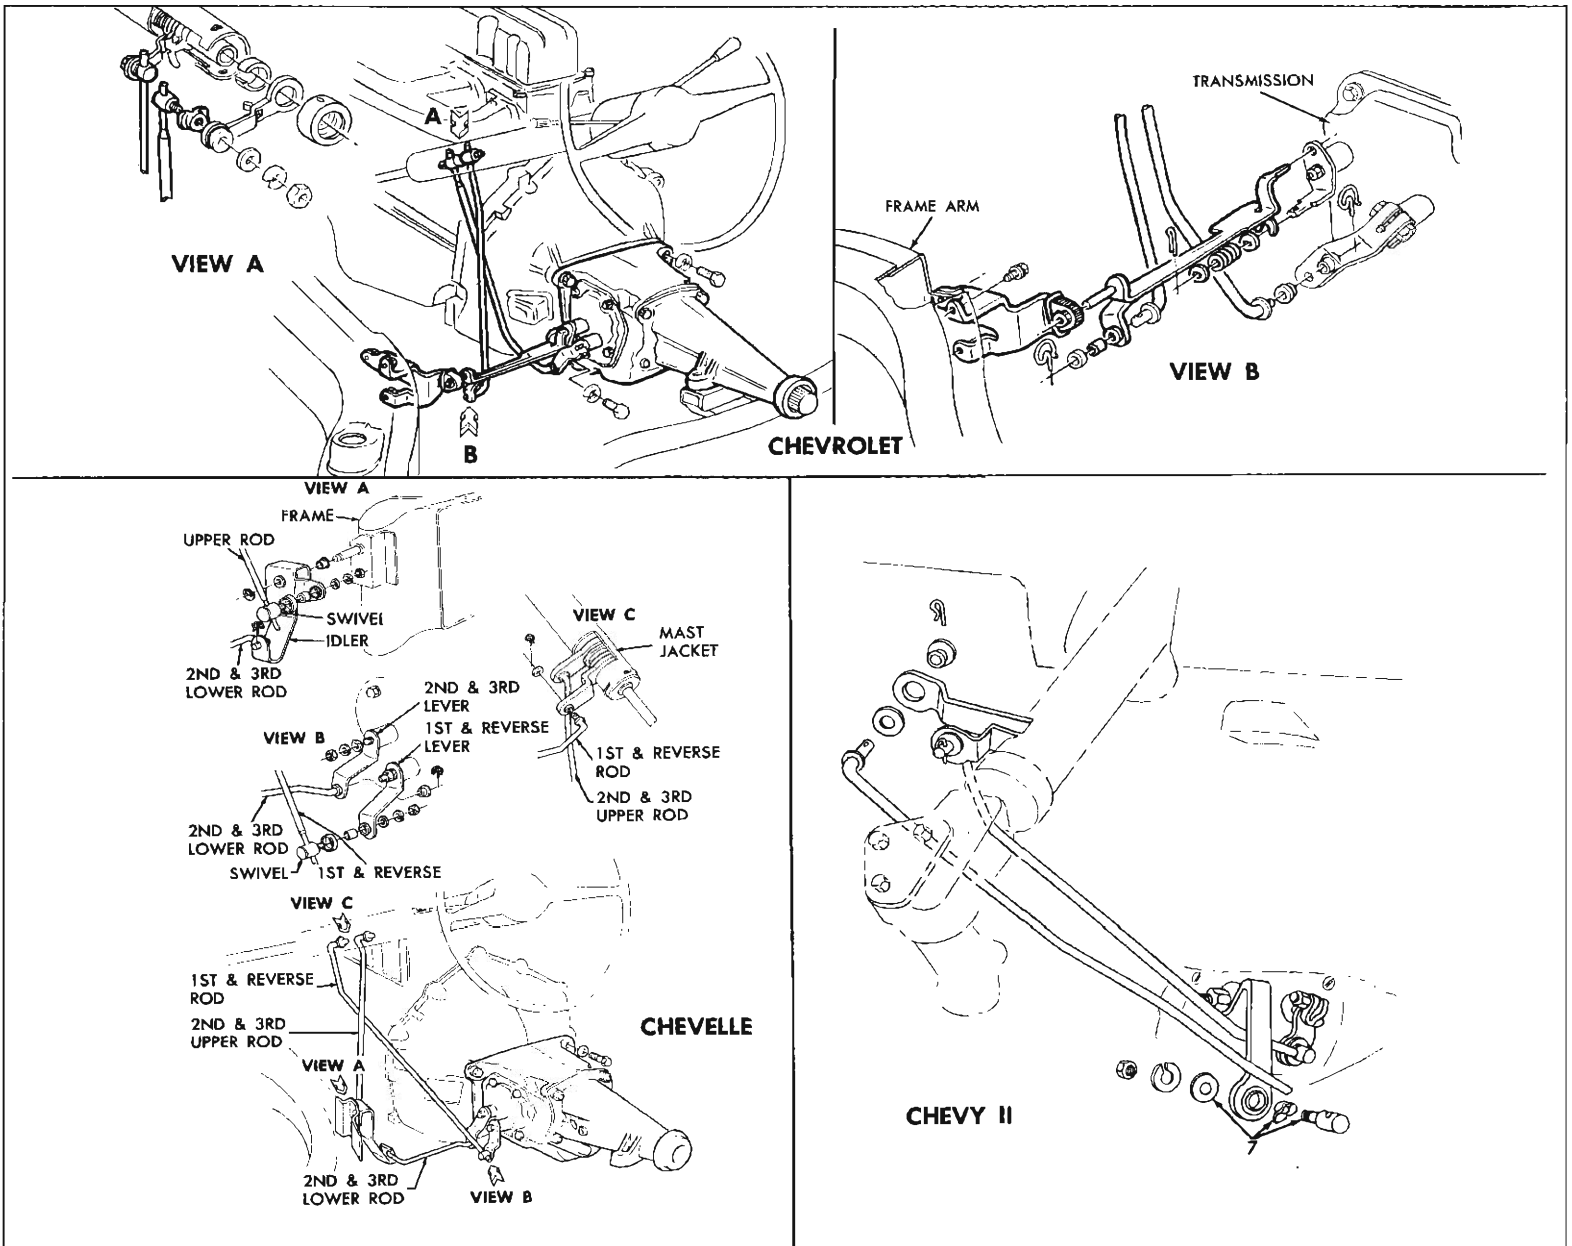

Fig. 1A—Shift Linkage Adjustment
### SHIFT LINKAGE ADJUSTMENT (Fig. 1A)
3. Refer to Figure 1A for appropriate vehicle and make necessary adjustment to align shift control rods and levers in neutral position.